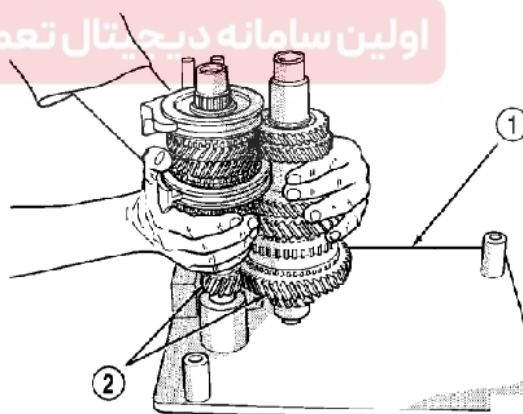

Figure 3-60 Plate jig
(1) Confirm the plate jig cushion has been removed from the plate jig and install the output shaft and input shaft on the plate jig (Millertool 6785) (Figure 3-60).